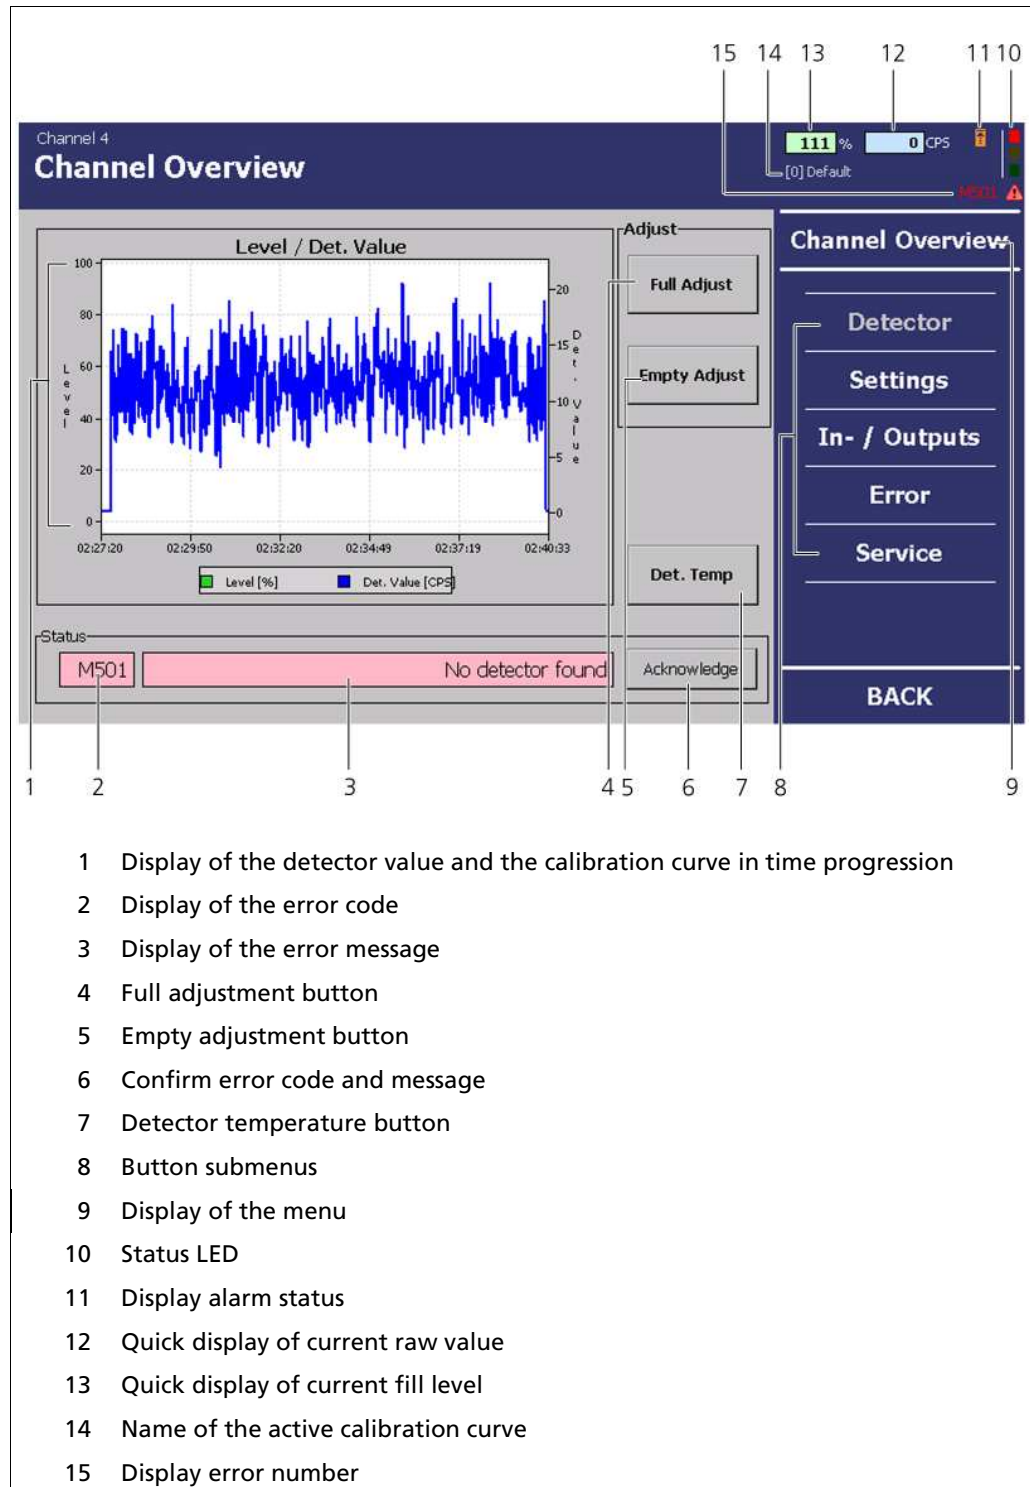

Fig. 49 Menu "Channel Overview"
The "System Status" display field shows you the current status of the EVU. All castXpert LB 452 errors have the prefix "M", all GAMMAcast LB67xx errors the prefix "D". The error code (Fig. 49, Pos 2) and error text (Fig. 49. Pos. 3) are displayed here. For troubleshooting, see chap. 8:
- Display field highlighted in green = no error (Fig. 49, Pos. 3)
The measured count rate (detector value - IPS) and the fill level are represented in the graph. By pressing the <Det.-Temp.> button (Fig. 49, Pos. 7), the detector temperature is displayed as opposed to the count rate.
In the "Channel Overview" menu, click on <Settings> (Fig. 49, Pos. 8), in order to reach the "Settings" submenu.